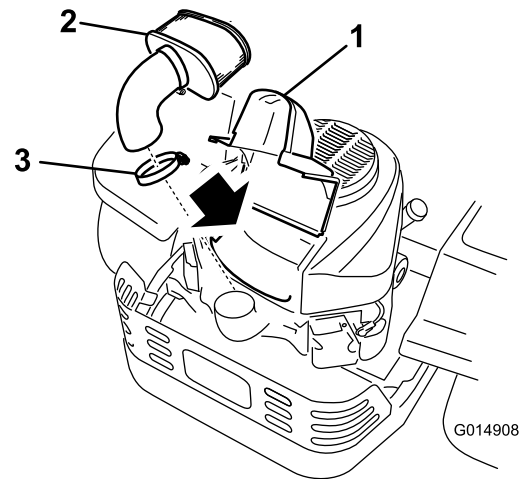

Figure 27
3. Clean around the air cleaner cover to prevent dirt from getting into the engine and causing damage. Lift the cover and remove the hose clamp securing the air cleaner assembly to the engine (Figure 27).
4. Loosen the hose clamp and remove the paper element (Figure 27).